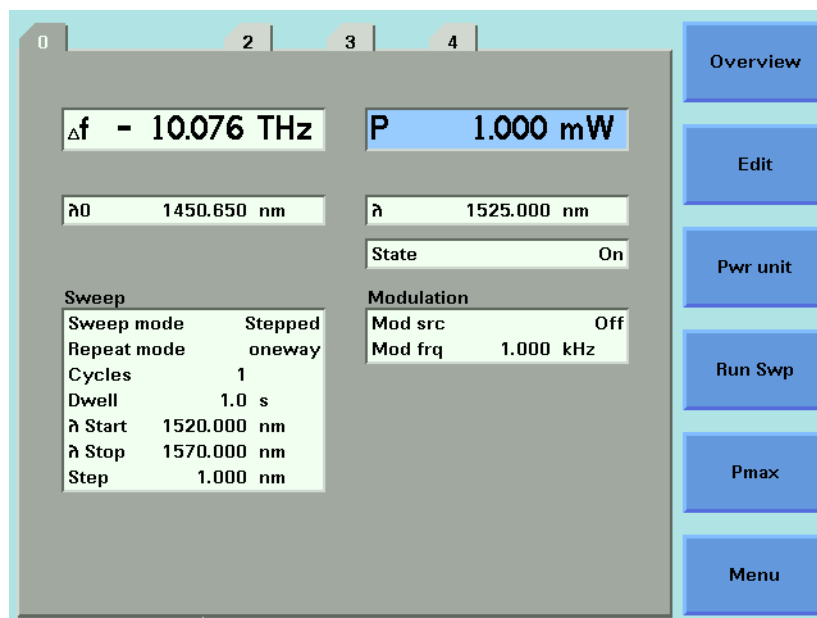

Figure 83 Setting a Relative Wavelength
- 4 Move to <Offset>, by using the cursor key, press *Enter*, and press *Close*. You see the screen in Figure 83 on page -145.